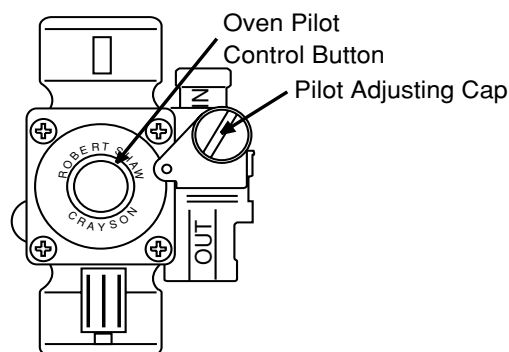

Fig. 4
1. Remove the pilot adjustment cap (Fig. 4)